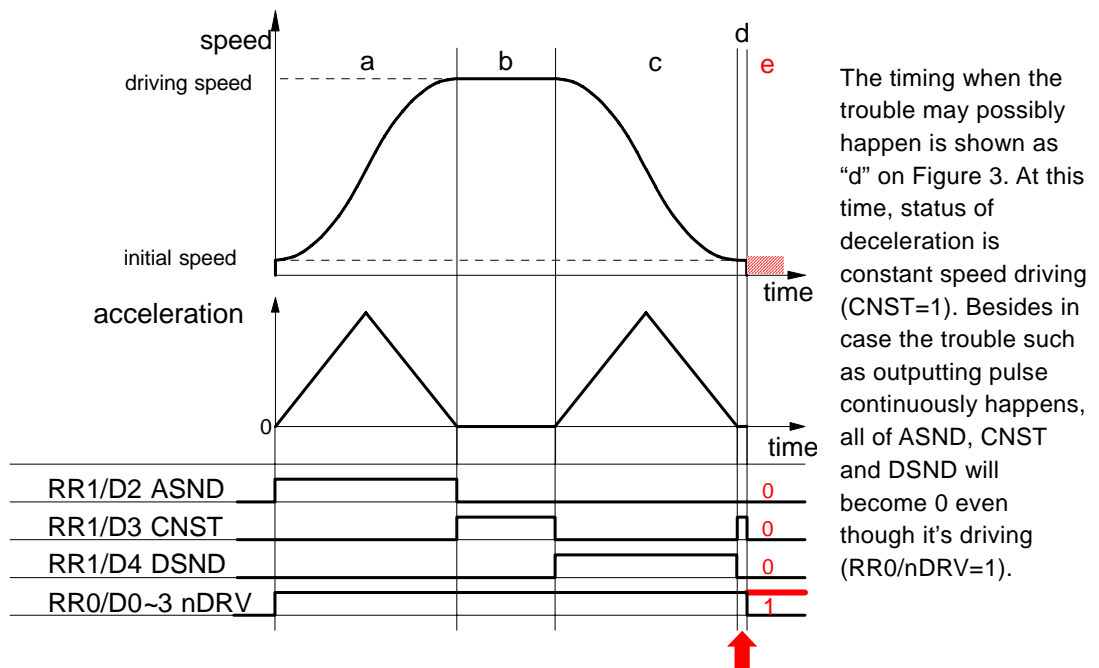

Figure 3. Status of deceleration shown by RR1 register
Deceleration status of accelerating (ASND), constant speed driving (CNST) and decelerating (DSND) can be read out according to RR1 register of IC. The status is shown as Figure 3. as below ;
Basically once deceleration starts, it isn't necessary to execute deceleration stop command. Therefore deceleration stop command should be prohibit. See nRR1/D4 (DSND) normally to know it's decelerating or not. Timing when the trouble happens is in "d" as shown on Figure 3 if deceleration stop command is executed. In "d" DSND status bit is 0 and CNST status bit is 1. Therefore the following two (2) solutions will be proposed.
Terms when deceleration stop command should be executed in accelerating and constant speed driving such as "a" and "b" on Figure 3. Status of deceleration for both "d" (timing when the trouble happens) and "b" (constant speed driving) is same as constant speed driving as shown on Figure 3. But there is difference of driving speed between two. Driving speed in "b" is near that of setting driving speed. Driving speed in "d" is near that of initial speed. Therefore before driving starts, prepare judgmental speed which is middle one between initial speed and setting speed ( $(\text{Driving speed} - \text{initial speed})/2 + \text{initial speed}$ ). When execute deceleration stop command during driving, make sure status is accelerating (ASND=1) or constant speed driving (CNST=1) and driving speed is same or faster than judgmental speed.
Constant speed area ("b" area) on Figure 3 is set as occurrence factor of interruption. But this interruption is also happened when there is "d" area just before driving stops on Figure 3 such as when driving speed reaches initial speed or when acceleration becomes 0(zero). There should occur "d" area definitely if the trouble is happened just before driving stops, driving speed hasn't reached initial speed yet, acceleration becomes 0 and decelerating stop requirement is executed. The measure is to judge if the trouble happens or not in the timing of interruption when "d" area ends.
- ① Check if driving goes out constant speed area or not. If  $RR3/D5$  (C-END) bit of driving axis is 0, there are other interruption factors. Execute those interruption processing.
- ② Check if driving goes into decelerating area or not. If it's  $RR1/D4$  (DSND)=1, make it finished as it goes because driving goes into "c" area from "b" area on Figure 3. If it's  $RR1/D4$  (DSND)=0, move it to ③ processing because driving has gone out "d" area.
- ③ Check if driving has finished or not. If it's finished, make it finished as it goes because driving has finished normally. But if it's not finished yet, surely trouble have happened because status is shown as it's still driving even though driving has gone out "d" area.
- ④ Check if hard limit is ON or OFF. Since  $RR1/D12$  bit becomes 1 if + limit is ON and  $RR1/D13$  bit becomes 1 if - limit is ON, if it's  $D12=1$  or  $D13=1$ , judge forward limit is ON.
- ⑤ If trouble has happened, it becomes  $ASND=CNST=DSND=0$ . Check them all.
- ⑥ Execute sudden stop command (27h).
In “d” area on Figure 3, if forward limit is active, the trouble will happen, more exactly saying, it will seldom happen. There isn't any method to avoid it before it happens. So immediately after the trouble happens, take means to stop driving. If the trouble happens (“e” area on Figure 3), status keeps driving (RR0/nDRV=1), status of acceleration/deceleration is 0 in ASND, CNST, DSND. This is completely abnormal state. So the example of measure is shown as follows;